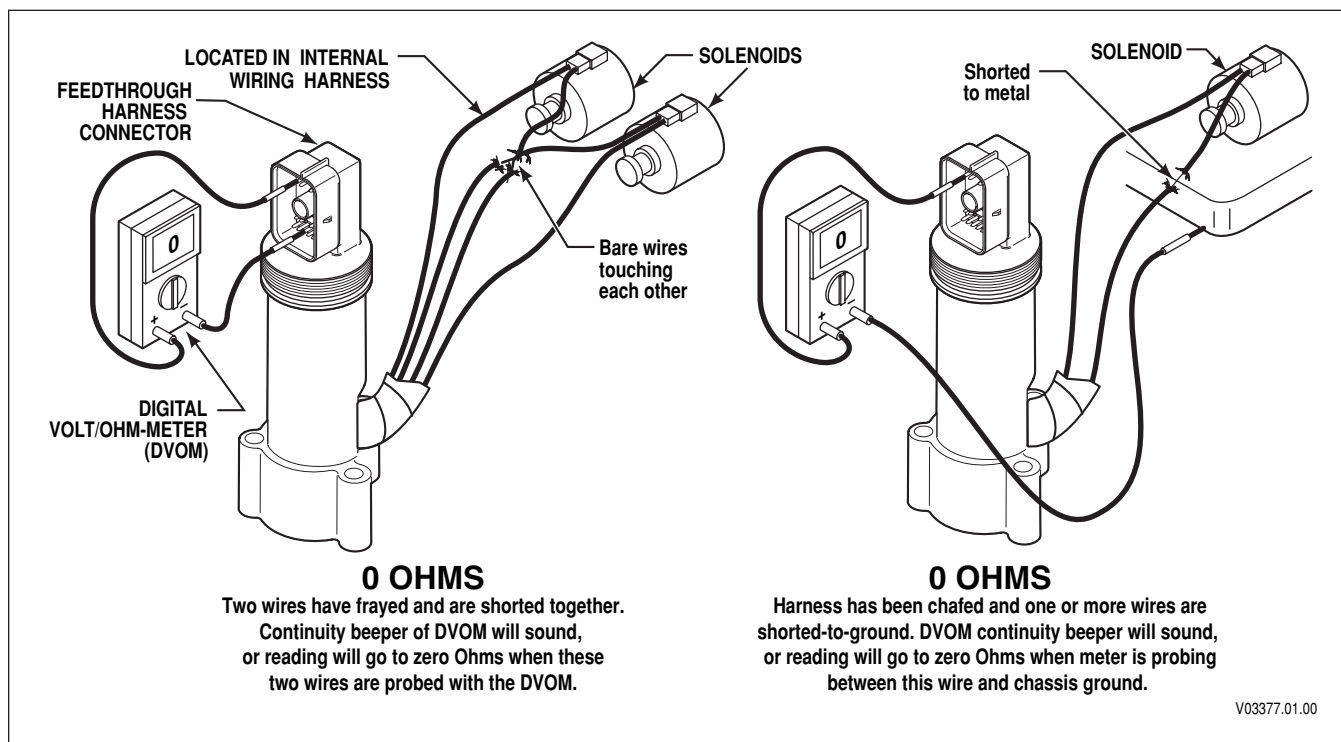

Figure 4-4. Short Between Wires and to Ground
- b. If the resistance test is good, test the harness for shorts between wires and to ground by performing the following (Figure 4-4):
- (1) At the transmission connector, touch one probe of the DVOM to one wire of the circuit being tested and touch the other probe to each terminal in the connector and to chassis ground and the transmission main housing. Do this for both wires in the circuit being tested.
- (2) If the DVOM shows zero to low resistance, or the continuity beeper sounds, there is a short between the two points being probed, wire-to-wire or wire-to-ground. An indication of a short may be caused by a splice to the wire being checked. Review the wiring diagram in Appendix J for splice locations. If the short is not a splice, then isolate and repair the short.